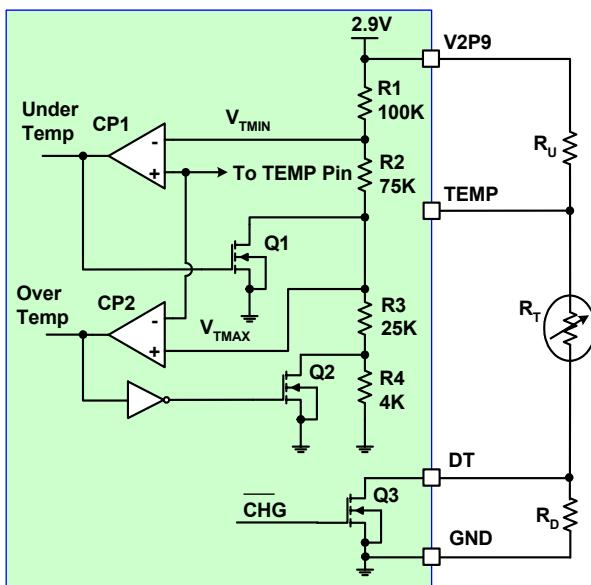
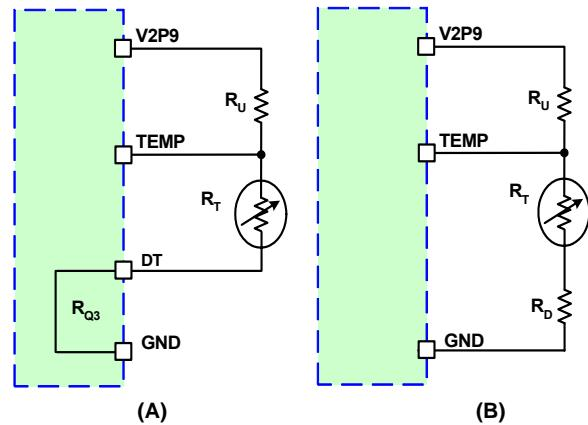

FIGURE 9. THE INTERNAL AND EXTERNAL CIRCUIT FOR THE NTC INTERFACE
FIGURE 10. EQUIVALENT CIRCUITS FOR THE NTC DIVIDER
Figure 9 shows the internal circuit for the ambient temperature sensing function. Two comparators form a window comparator whose high-threshold is V_{TMIN} and low-threshold is V_{TMAX} . These two thresholds are given in the Electrical Specifications. The two MOSFETs (Q1 and Q2) create a hysteresis for each comparator, respectively. The DT pin is shorted to GND via the internal Q3 MOSFET when the charger is not charging, resulting in the equivalent circuit shown in Figure 10 (A). The on-resistance of Q3 is typically 50Ω and is negligible compared to the external resistors. When the charger starts to charge, Q3 is turned off to set a higher temperature range determined by the external resistor R_D . The equivalent circuit is shown in Figure 10 (B). The DT pin provides a higher shut down ambient temperature during the charger operation.
As the temperature falls, the TEMP pin voltage rises. When it exceeds the $2.0V V_{TMIN}$ threshold, an under temperature condition exists. This condition does not clear until the TEMP pin voltage falls back below the threshold minus the hysteresis voltage (V_{TMIN-}). Similarly, an over-temperature condition exists when the TEMP pin voltage falls below the $0.714V V_{TMAX}$ threshold and does return to normal temperature operation until the voltage rises above the threshold plus the hysteresis voltage (V_{TMAX+}). The actual accuracy of the $2.9V$ supply voltage is **not important** because all the thresholds and the TEMP pin voltage are ratios determined by the resistor dividers, as shown in Figure 9.